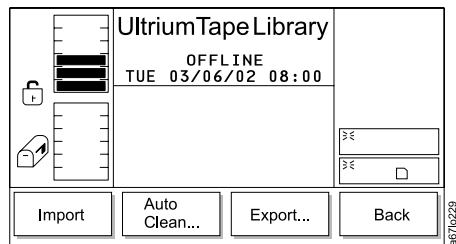

Figure 170. I/O Station Submenu
2. Press the button below the **I/O Station** softkey. The I/O Station Submenu displays (see Figure 170).